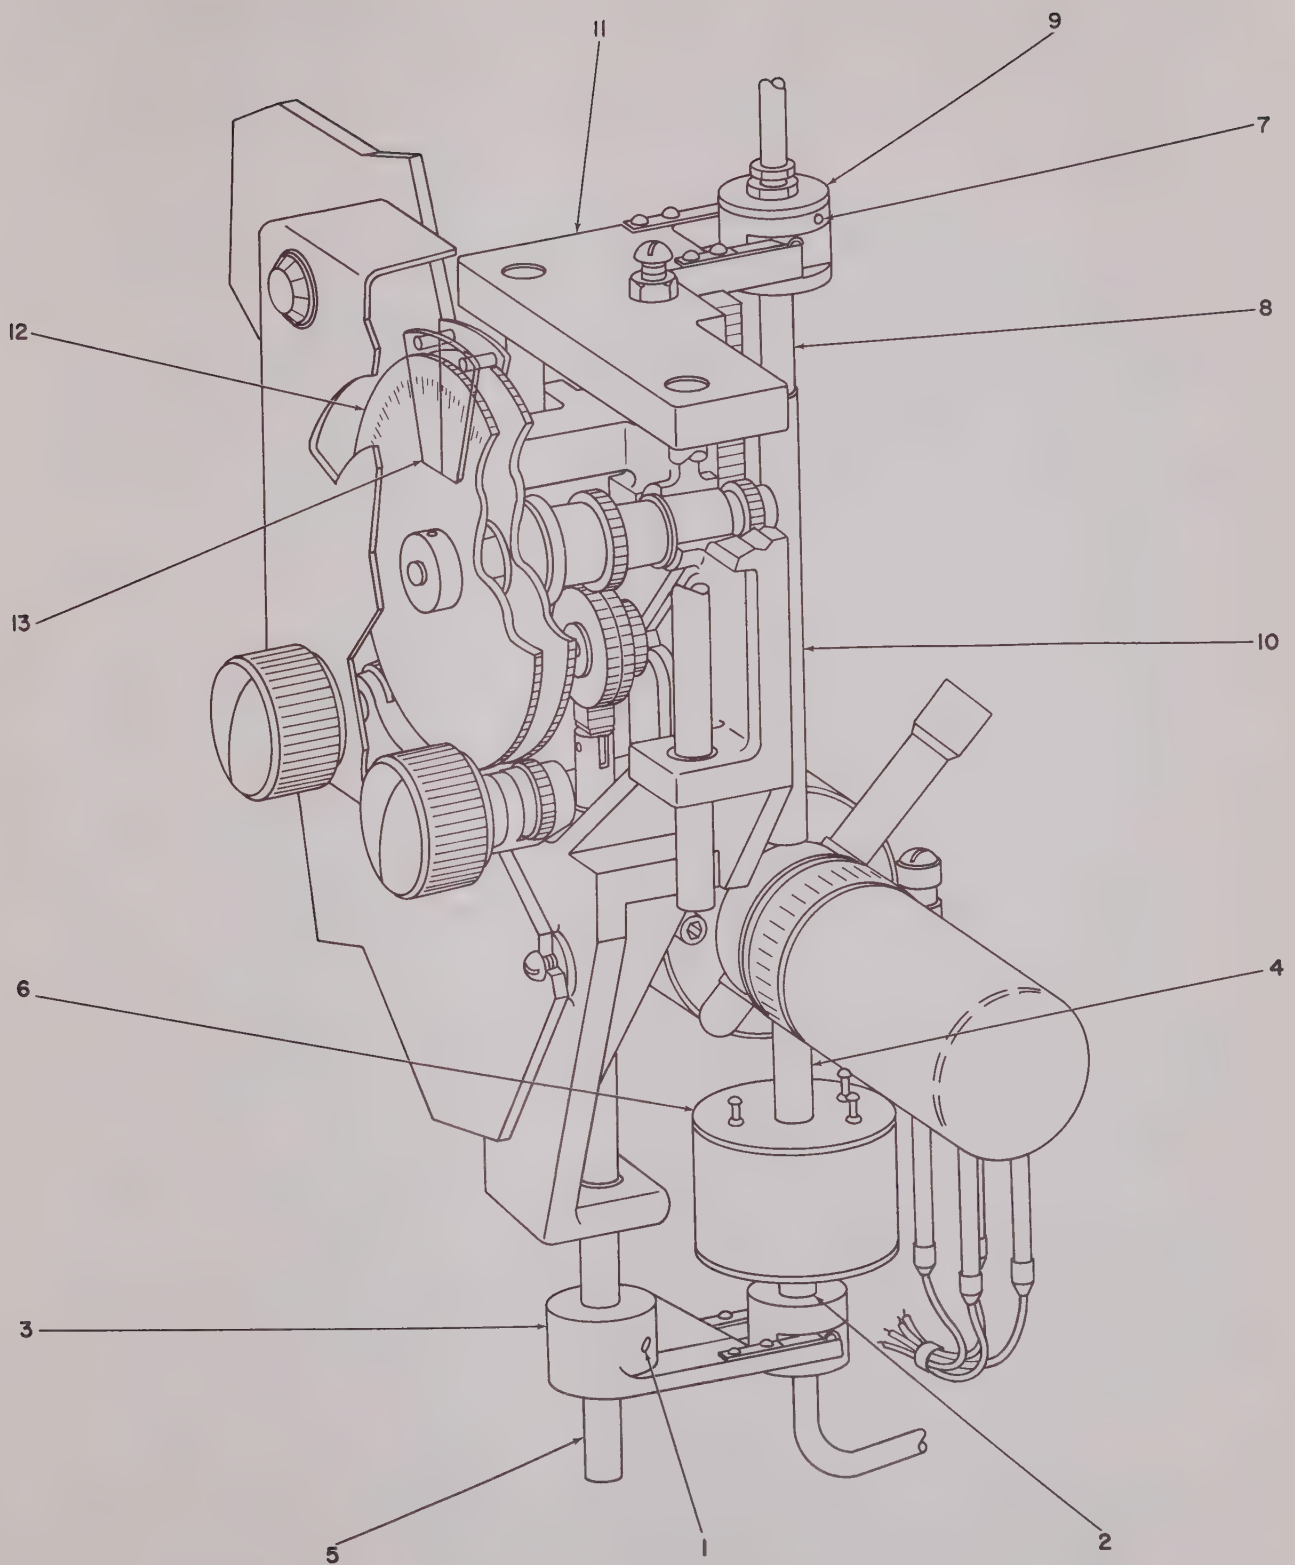

Figure 4-32. Signal Calibrator Power Set and Output Attenuator Drive Mechanism
- c. Loosen the two setscrews (1, figure 4-32) that secure the signal calibrator thermistor probe (2, figure 4-32) to the signal calibrator thermistor probe drive yoke (3, figure 4-32).
- d. Carefully withdraw the signal calibrator thermistor probe and signal calibrator thermistor probe drive yoke from the signal calibrator external cavity power set waveguide-beyond-cutoff attenuator pipe (4, figure 4-32) and the signal calibrator thermistor probe drive rod (5, figure 4-32), respectively.
a. Carefully mate the replacement signal calibrator thermistor probe (2, figure 4-32) with the signal calibrator thermistor probe drive yoke (3, figure 4-32).
b. Carefully insert the tip of the signal calibrator thermistor probe into the signal calibrator external cavity power set waveguide-beyond-cutoff attenuator pipe (4, figure 4-32).
c. Carefully slip the signal calibrator thermistor probe drive yoke (3, figure 4-32) over the signal calibrator thermistor probe drive rod (5, figure 4-32).
e. Tighten the two setscrews on the signal calibrator thermistor probe drive yoke (1, figure 4-32), thereby securing the signal calibrator thermistor probe to the signal calibrator thermistor probe drive yoke.
b. Loosen and remove the single screw that secures the thermistor mount cover plate to the signal calibrator thermistor mount (6, figure 4-32). Place the screw and its associated hardware in an accessible location.
e. Loosen the two screws that secure the thermistor mount to the signal calibrator external cavity power set waveguide-beyond-cutoff attenuator pipe (4, figure 4-32).
a. Slip the thermistor mount onto the signal calibrator external cavity power set waveguide-beyond-cutoff attenuator pipe (4, figure 4-32).